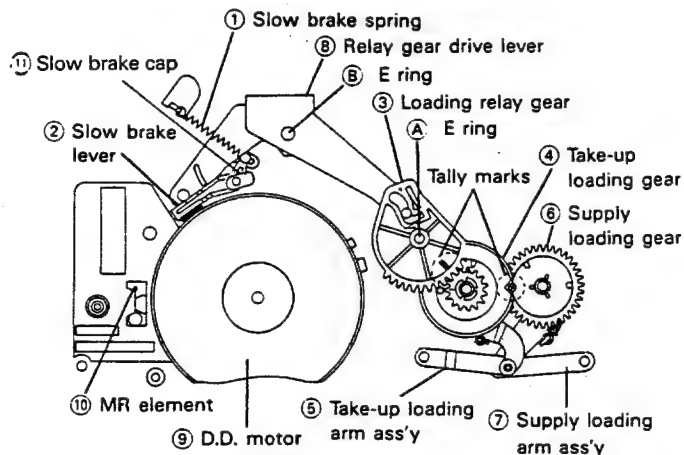

Figure 1-31.
2. In reassembling, match the tally marks on the gears, as shown in Fig. 1-31
1. Place the relay gear drive lever in the unloading state as shown in Fig. 1-31.
2. Set the relay shifter lever ④ to the main chassis; the shifter lever should be adjusted to the reverse guide spring hole in the main chassis. Then place the master cam so that the cut-off part of the boss ⑤ should face the direction of arrow ⇒ ⑤.
3. Place the half-loading reciprocating lever ① so that its cam follower comes in the outermost cam groove. Now attach the E ring ①.
- Preferably hook the half-loading reciprocating spring ⑤ before attaching the lever. It is easier to set up.
4. Turn the master cam ③ somewhat clockwise until the pinch roller lever's cam follower comes into the master cam's groove ⑥. Then attach the E ring ②.
5. Rotate the master cam ③ by hand to make sure all the four levers (relay gear drive lever, relay shifter lever, half-loading reciprocating lever and pinch roller lever) are right in the cam grooves.